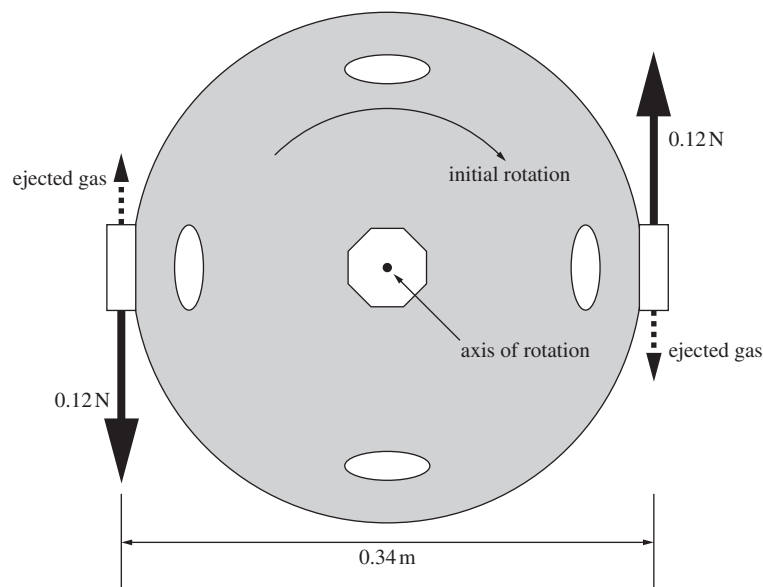

Figure 1
- 1 **Figure 1** shows a remote-control camera used in space for inspecting space stations. The camera can be moved into position and rotated by firing thrusters which eject xenon gas at high speed. The camera is spherical with a diameter of 0.34 m. In use, the camera develops a spin about its axis of rotation. In order to bring it to rest, the thrusters on opposite ends of a diameter are fired, as shown in **Figure 1**.